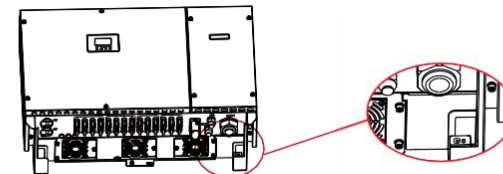

Figure 5.3 Securing the PGND cable
**Step 3** Remove the ground screws from the ground points, secure the PGND cable (done by step 1 & 2) using the ground bolts, and tighten the bolts to a torque of 5 N·m using a socket wrench, as shown in Figure 5.3. PE wire must be well grounded to ensure that impedance between Neutral wire and Earth wire be less than 10Ω.